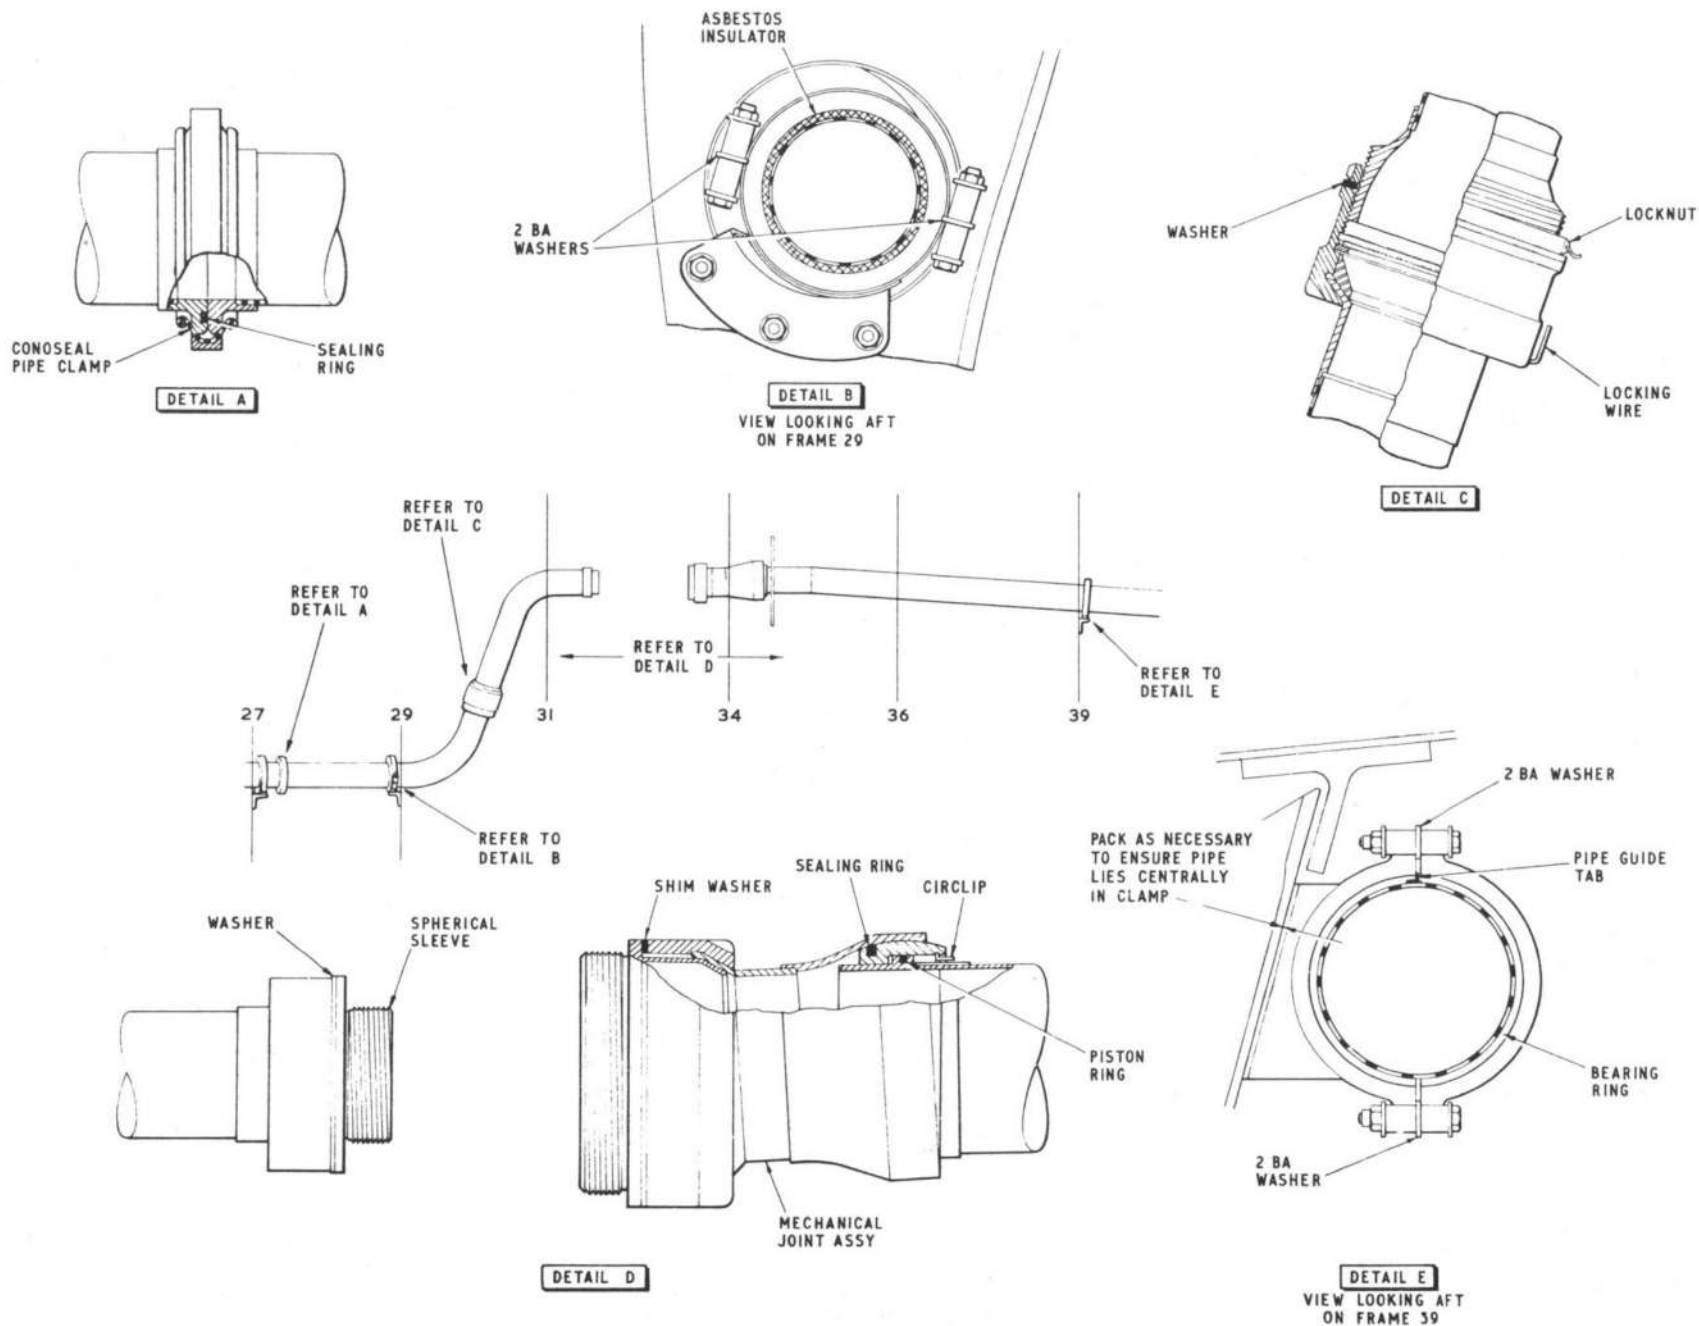

FIG. 4. MAIN AIR SUPPLY-FRAMES 25B TO 39 (MK.1 A/C)
10. On completion of any servicing operation involving the breakdown of the main air supply duct, the relevant dimensions shown in fig. 4 to 8 inclusive must be checked and, where necessary, adjustments made to achieve them.